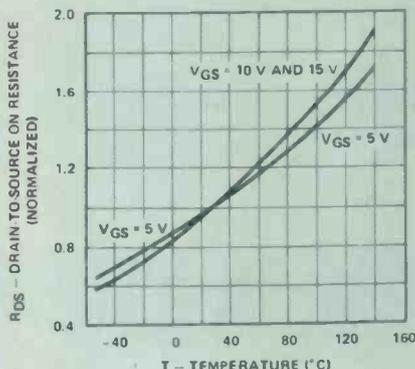

Fig. 6 Drain to source resistance against temperature (Siliconix).
As described earlier (Part 1) these devices exhibit a negative temperature coefficient with respect to current, so that as temperature rises, current is reduced, thus providing a self-inhibiting action which provides some protection against overload. However, this is not an unconditional effect Fig. 6 shows the relationship between RDS(on) and temperature (3), based on a worst case temperature coefficient of 0.7 per cent per degree C.